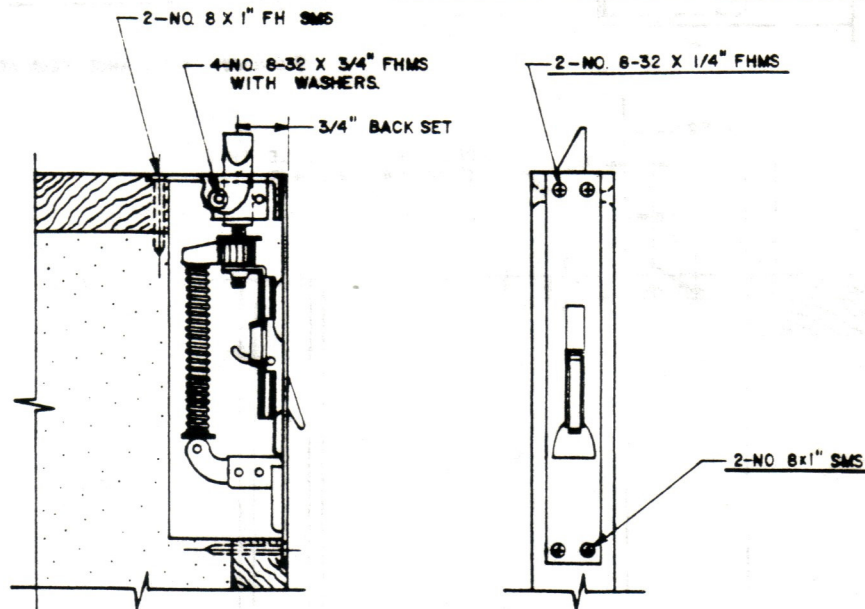

FIGURE 3
- 5). ADJUST BOLT SO WHEN FULLY RETRACTED TO PROVIDE 1/8" CLEARANCE BETWEEN BOLT AND STRIKE. TO ADJUST BOLT, REMOVE SCREWS UNDERLINED IN FIGURE 3 AND REMOVE BOLT. ROTATE BOLT UP OR DOWN AS REQUIRED, THEN REPLACE BOLT.